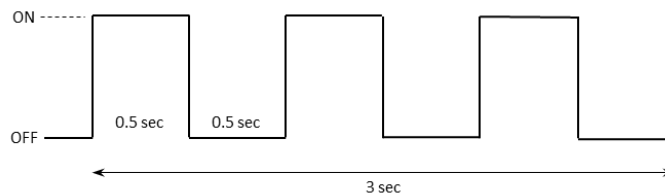

Figure 1-7: The LED pattern with GREEN after the magnetic wake-up/reset pattern is observed.
2. **GREEN** is toggled ON and OFF every 0.5 sec for 3 sec as shown in Figure 1-7.